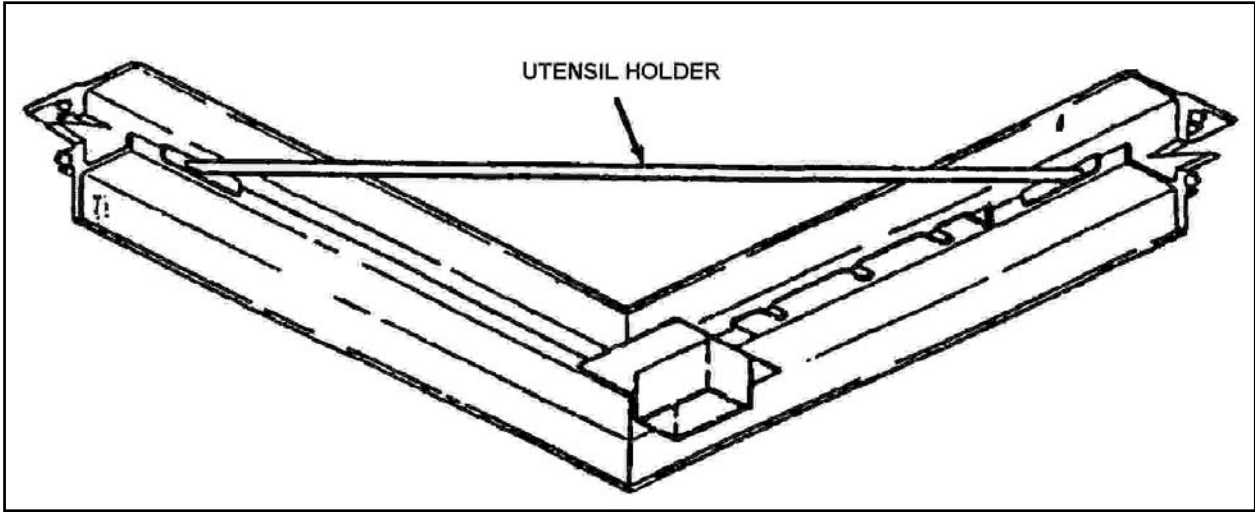

Figure 3-9. Utensil Holder
- m. Have them install utensil holders across inside corners of roof assembly frame in two places (see Figure 3-9, page 3-9).